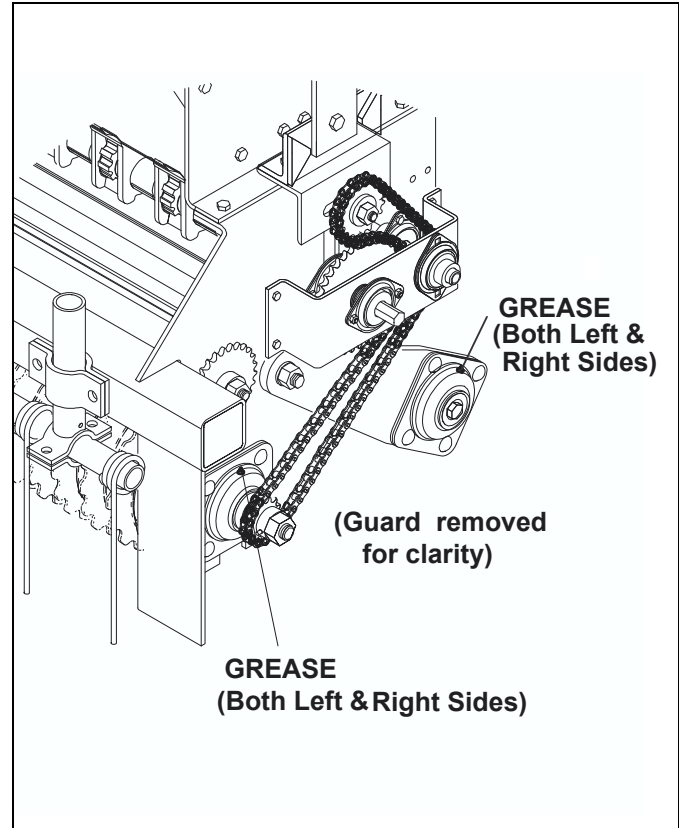

Figure 4-1 Lubrication Fittings
- Grease all fittings every 20 hours of operation. Each of the four flange bearings supporting the rollers has a grease fitting. See Figure 4-1.